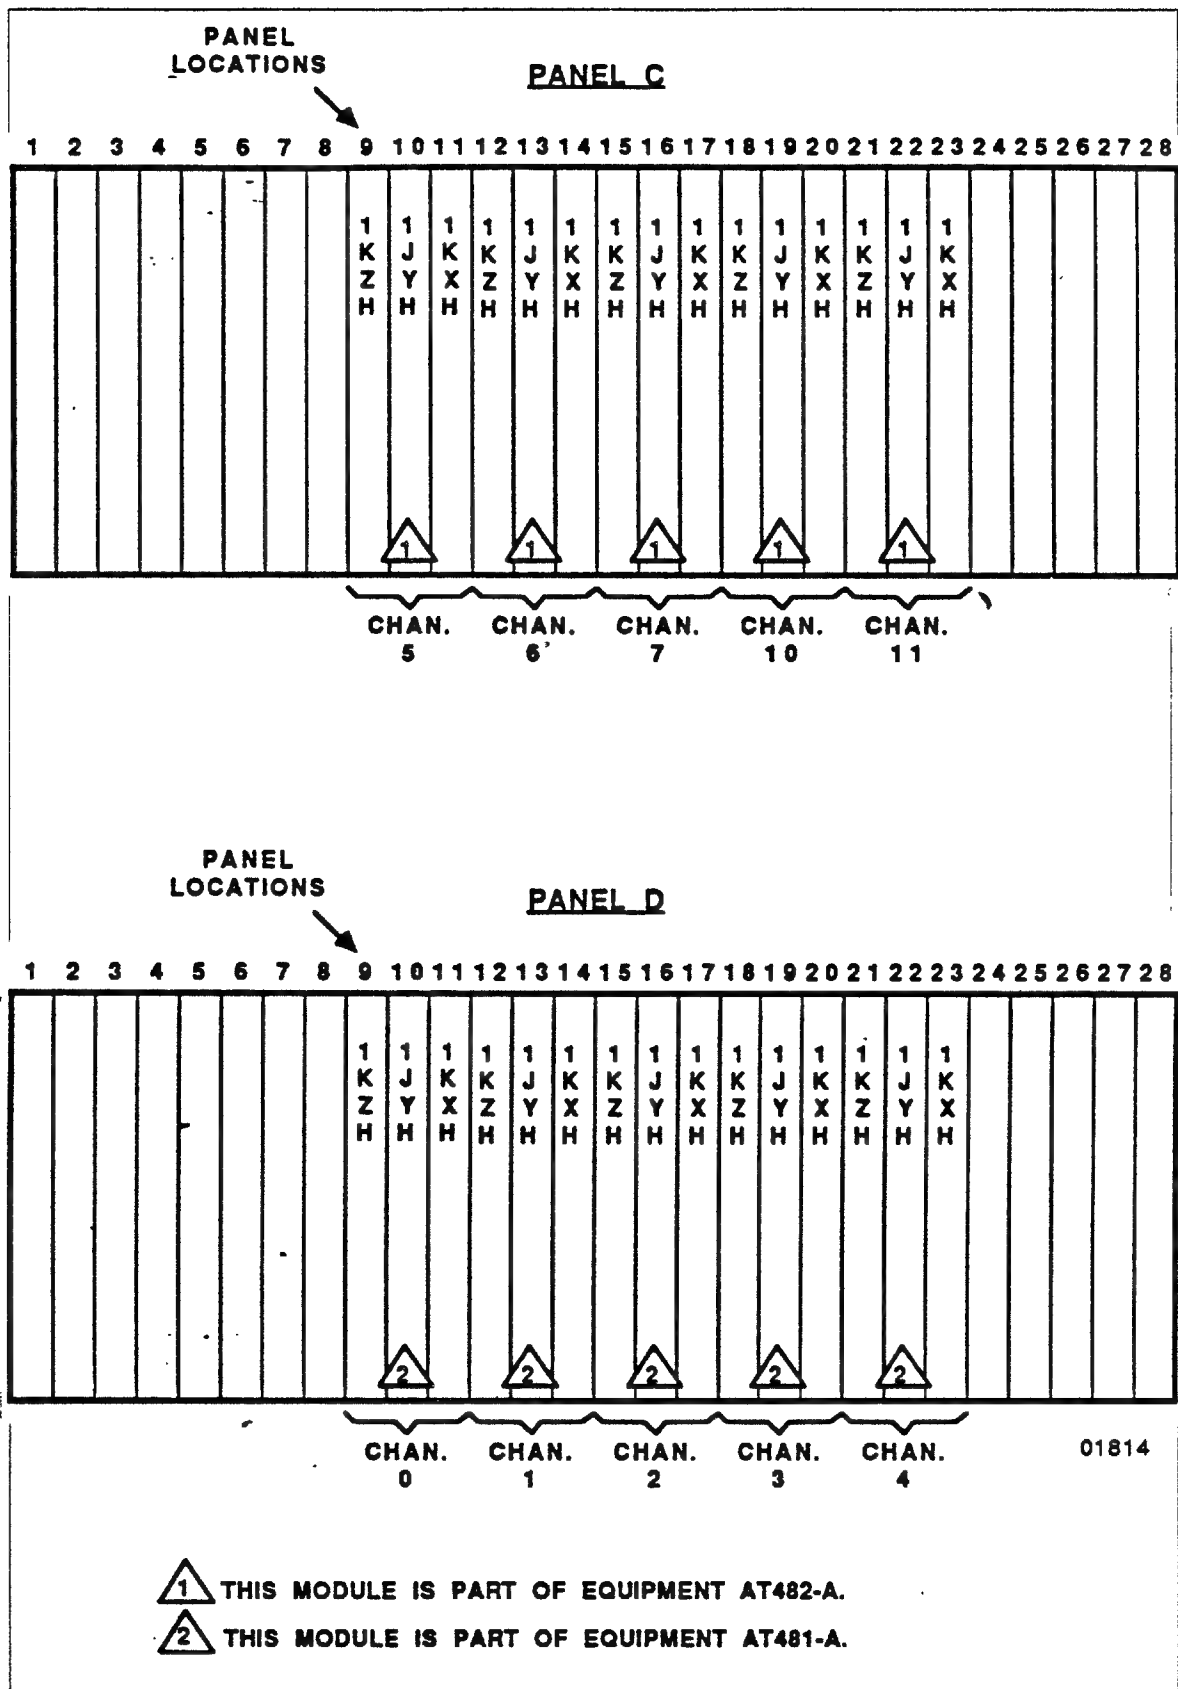

Figure 7-2. IOU CIO Panel Map
- ___ 9. Locate Z and X boards for channel to be removed (figure 7-2).